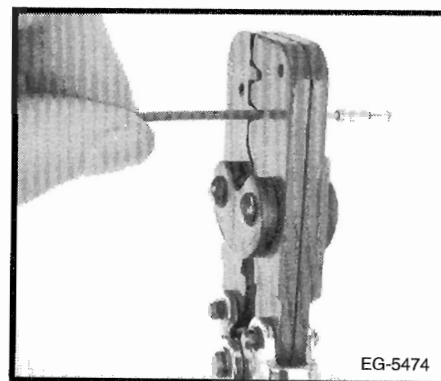

Figure 6-24. – Terminal Over Wire
3. Hand crimp the core wings first and then the insulation wings (Figure 6-24.).